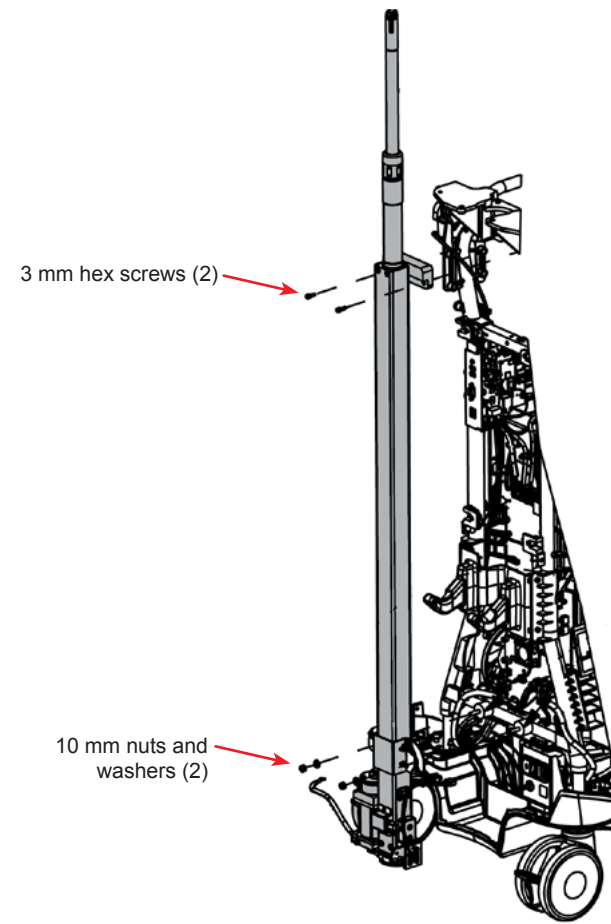

Figure 3-32 IV Pole Assembly Removal
- 30.5 Remove two 3 mm hex screws securing inside top of IV Pole Assembly to chassis (see Figure 3-32).
- 30.6 Loosen two 10 mm nuts and washers securing bottom of IV Pole Assembly to standoffs on chassis. Nut do not need to be completely removed (see Figure 3-32).